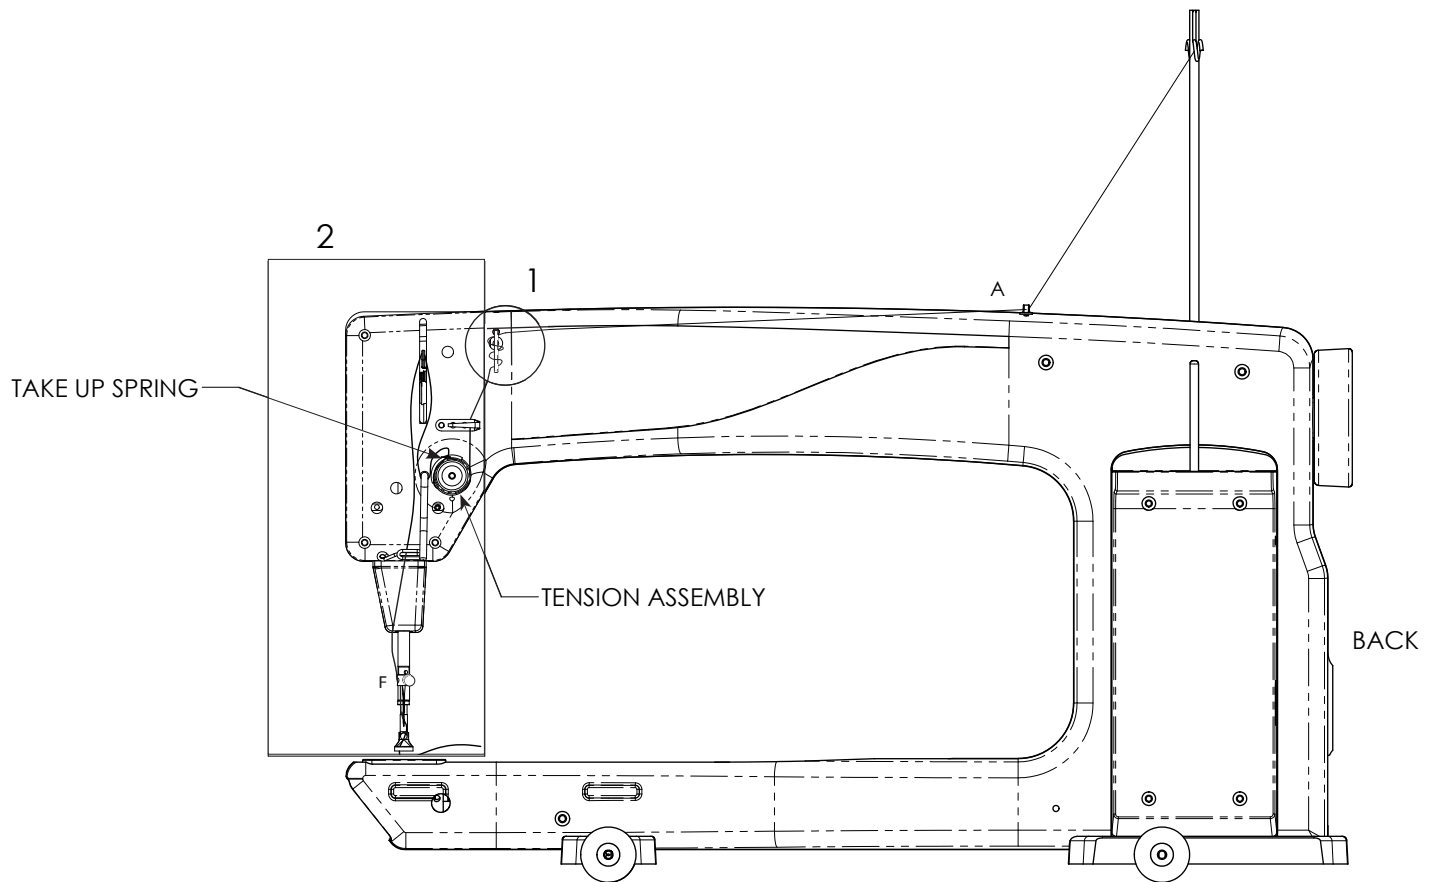

Figure 13
1. Place a cone or spool of thread on the spool pin. Pass the thread through **the thread-mast** eyelet from back to front, continuing to thread guide **A**. (Figure 13)